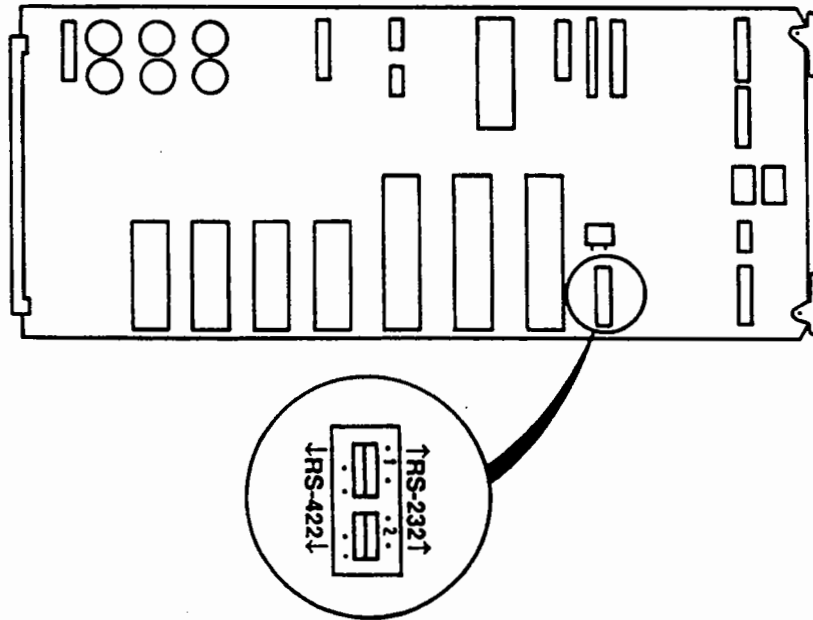

Figure 5-11. Expansion Interface PCB
4. Position the DIP switch shown in figure 5-11 to the appropriate selection (RS-232C or RS-422).